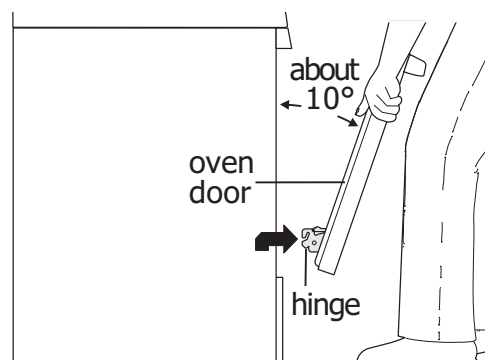

Figure 19: Holding door for removal
3. Firmly grasp both sides of oven door along the door sides. Do not use the oven door handle (Figure 19).
4. Close the door to approximately 10 degrees from the door frame (Figure 19).
1. Firmly grasp both sides of oven door along the door sides. Do not use the oven door handle (Figure 19).